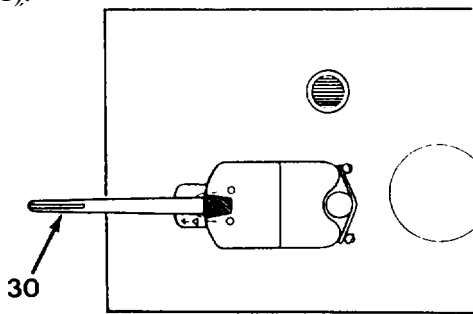

Figure 4-11. *Turn Signal Lever*
30. **Turn Signal Lever** activates right- or left-hand turn signals, plus emergency flashers, and is deactivated when blackout lights are on (Figure 4-11).